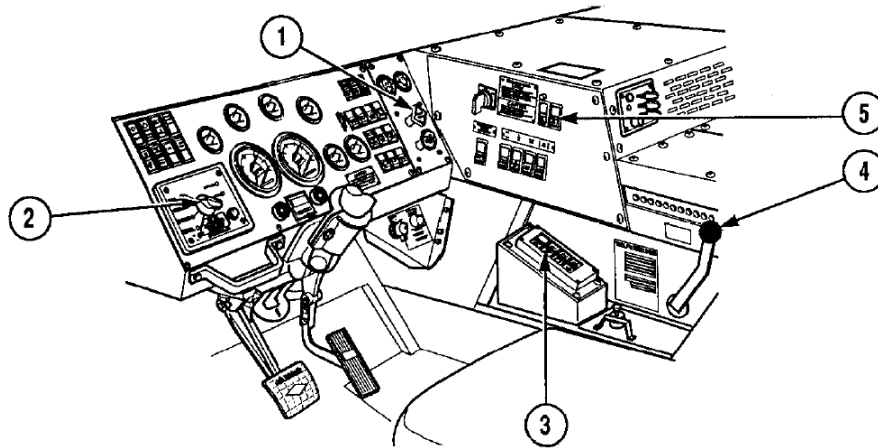

Figure 12. 23 Transfer case lockup
12.9.1.2 Set the parking brake (Figure 12. 23. (1)) of the disabled launch vehicle.
12.9.1.3 Start the engine of the disabled launch vehicle and place the CTIS rotary selector switch (Figure 12. 23. (2)) of disabled launch vehicle in the HIGHWAY position. If the CTIS does not work or the engine is inoperative, manually inflate the tires.
- 12.9.1.4 Place the transmission (Figure 12. 23. (3)) of the disabled launch vehicle in Neutral (N) position.
- 12.9.1.5 Place the TRANSFER CASE shift lever (Figure 12. 23. (4)) of the disabled launch vehicle in the NEUTRAL position.
- 12.9.1.6 Place the TRANSFER CASE LOCKUP switch (Figure 12. 23. 5) of the disabled launch vehicle in the OFF position.